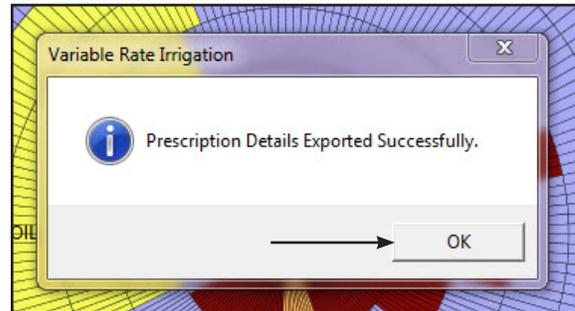

Figure 31-1 Successful Export
4. Click **OK**. (Refer to Figure 31-1.)